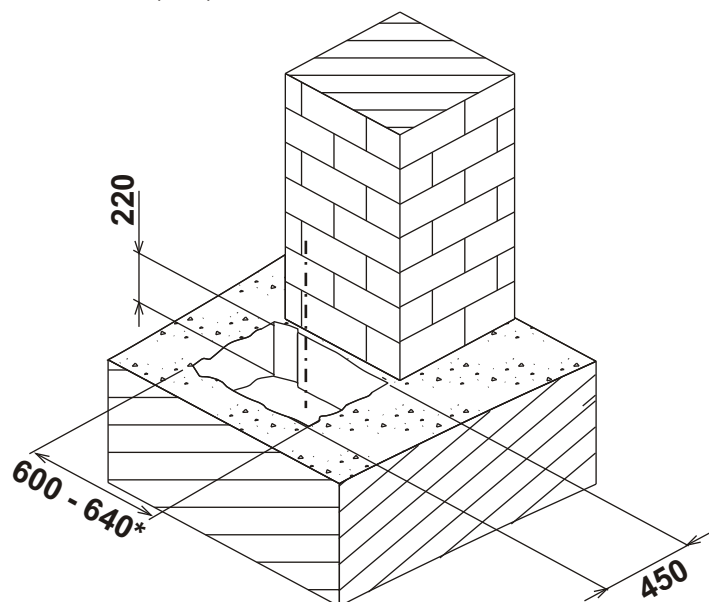

Fig. 4
**2.1.** The hole which contains the carrying box must have the approximate dimensions mentioned in Fig. 4.